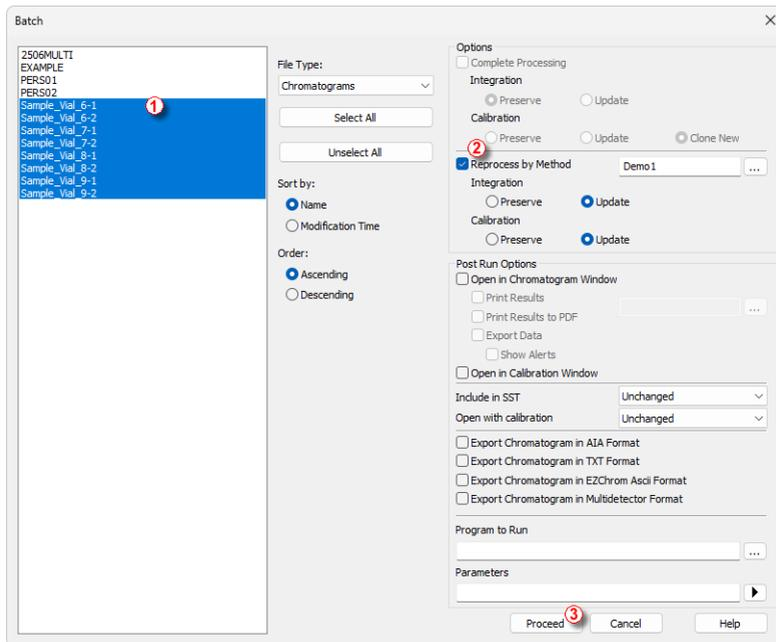

Fig. 19: Batch dialog with selected chromatograms
- Select the files to be reprocessed in the left part of the dialog **1** (Fig. 19 on pg. 32.); multiple files can be selected by left-clicking them while holding the **Ctrl** or **Shift** key. For the demonstration, select all files with the names SAMPLE_VIAL_X-Y in the DATA directory to be reprocessed, check the *Reprocess by Method* **2** checkbox, select the method to be used for the reprocessing, and in *Calibration* part of the Options select the *Update*. Click the *Proceed* **3** button. All the selected chromatograms will now be linked to the calibration based on the current method.